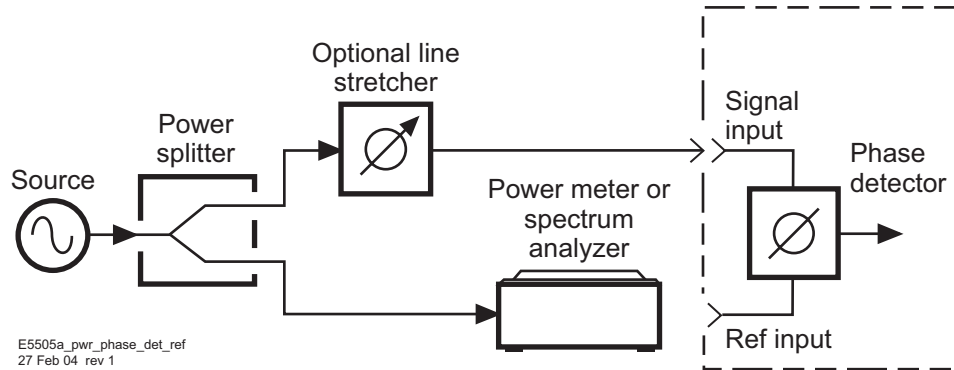

Figure 154 Measuring power from splitter
- 1 Connect circuit as per Figure 154, and tighten all connections.